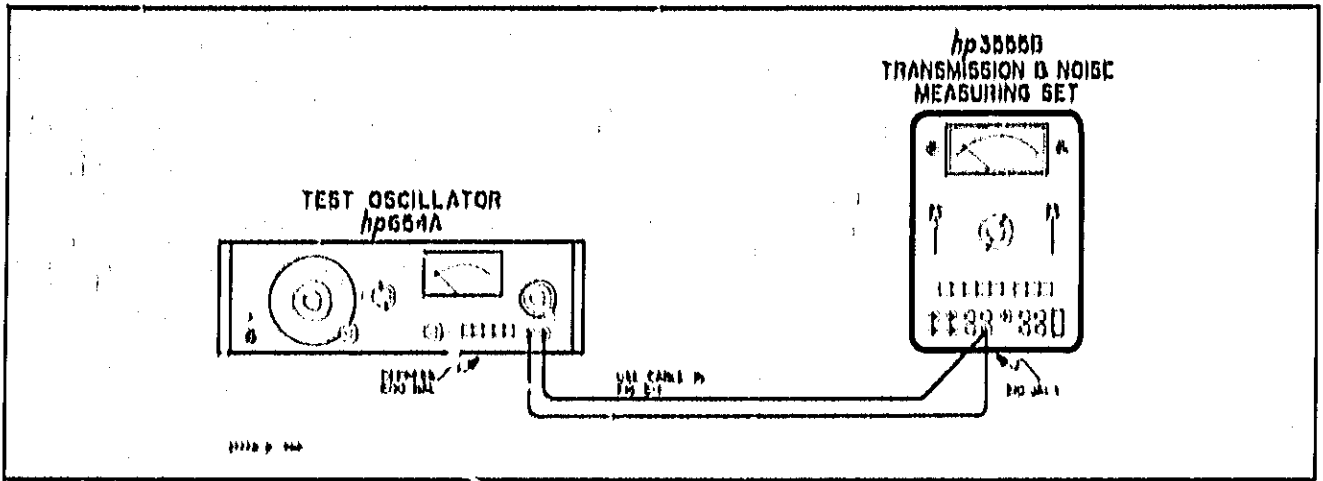

Figure 5-5. Filter Response Test Set-Up
1. Connect the equipment as shown in Figure 5-5 and set the 3555B controls as follows:
- a. Remove the test board from the set and install the function board assembly A1. Reinstall the A3 board. Connect the 654A balanced output to the 3555B balanced input terminals. See Figure 5-5. Set the 3555B controls as follows: